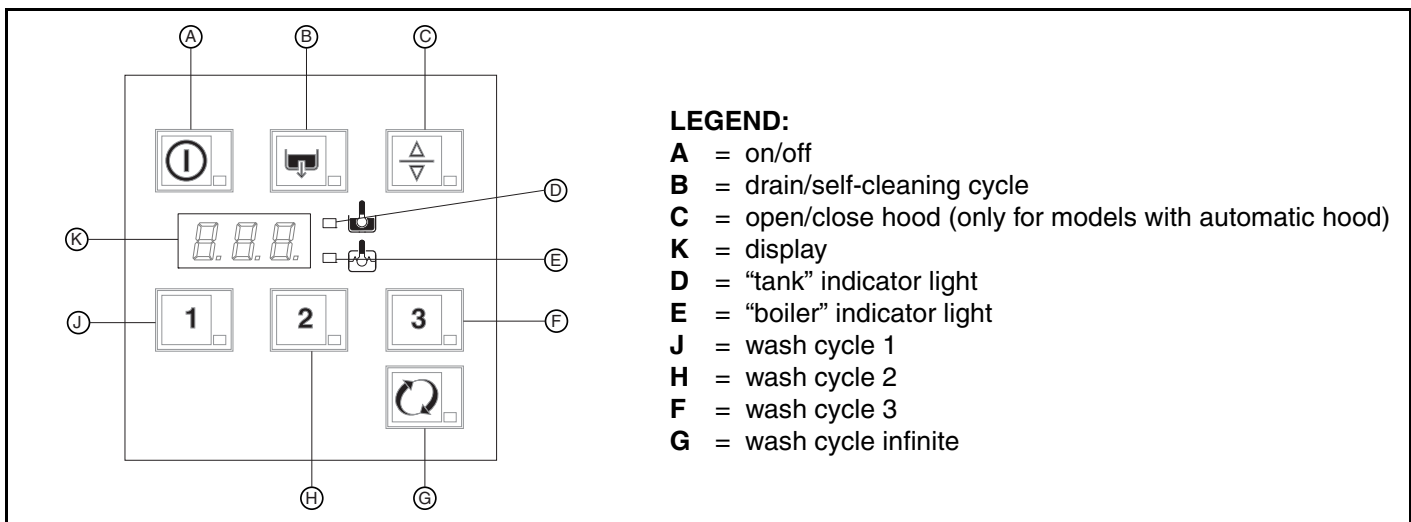

Figure 13
The indicator light of the on/off button “A” (Figure 13) comes on, indicating that the dishwasher is powered and that water is being introduced and heated. The word “FILL” is shown on the display during the entire filling and heating stage:
To display the boiler temperature during heating of the tank, open the hood and press "J" button (Figure 13).
For lightly soiled dishes: press "J" button (Figure 13) (see table of times).
For normally dirty dishes: press "H" button (Figure 13) (see table of times).
For very dirty dishes: press "F" button (Figure 13) (see table of times).
For particularly dirty dishes with dried food residue, dishes with a special shape or for other specific needs of the user: press "G" button (Figure 13), which initiates a continuous wash until the operator selects an automatic cycle.
- Select the drain cycle by pressing "B" button (Figure 13).
- Switch off the dishwasher by pressing "A" button (Figure 13).
Close the hood and select the drain cycle by pressing the "B" button (Figure 13).
Switch off the dishwasher by pressing "A" button (Figure 13)
Press on/off "A" button (Figure 13).